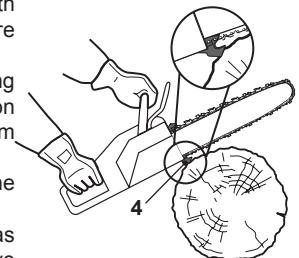
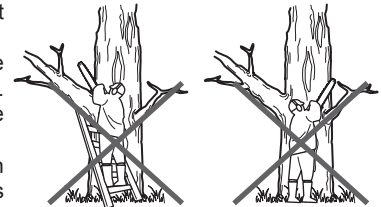

Fig. 21
Fig. 22
5. Ensure the saw chain (8) is running at full speed before it makes contact with the wood. Use spiked bumper (4) to secure the product onto the wood before starting to cut and use it as a leverage point while cutting (Fig. 21).
6. Reset the spiked bumper (4) at a low point when cutting thicker logs by pulling the product slightly backwards until the gripping teeth release, and reposition at lower level to continue sawing. Do not remove the product completely from the wood.
8. Do not operate the product with arms fully extended or attempt to saw areas which are difficult to reach, or on a ladder. Never use the product above shoulder height (Fig. 22).